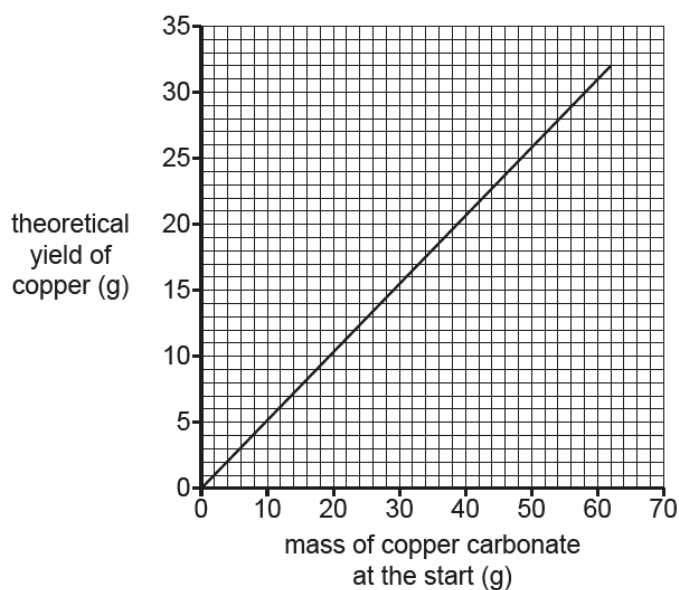

Fig. 3.2
Jane's teacher gives her Fig. 3.2 to help her predict the theoretical yield of copper.
(i) Jane looks at Fig. 3.2 and thinks that the theoretical yield of copper is directly proportional to the mass of copper carbonate at the start.
Use values from the graph in Fig. 3.2 to explain why Jane is right.
- (ii) Explain why the line on the graph in **Fig. 3.2** starts at 0 on both axes.
Use the graph in **Fig. 3.2** to help you.